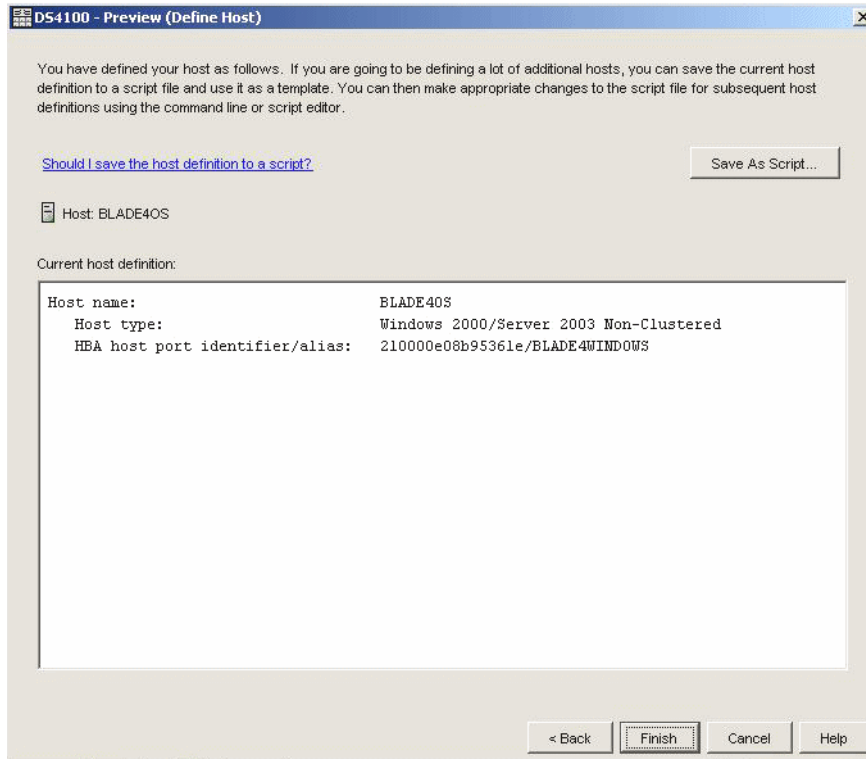
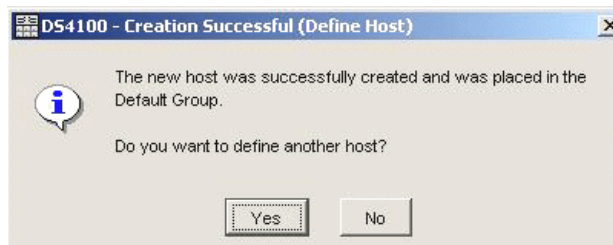

Figure 9-52 Preview (Define Host) window
Figure 9-53 Creation Successful (Define Host) window
21. Select **No - this host will NOT share access to the same logical drives with other hosts**. Click **Next** and you will see a window similar to Figure 9-52 on page 319.
22. In Figure 9-52, you are able to verify the host information you have defined. Click **Finish**. You will see a window similar to Figure 9-53.